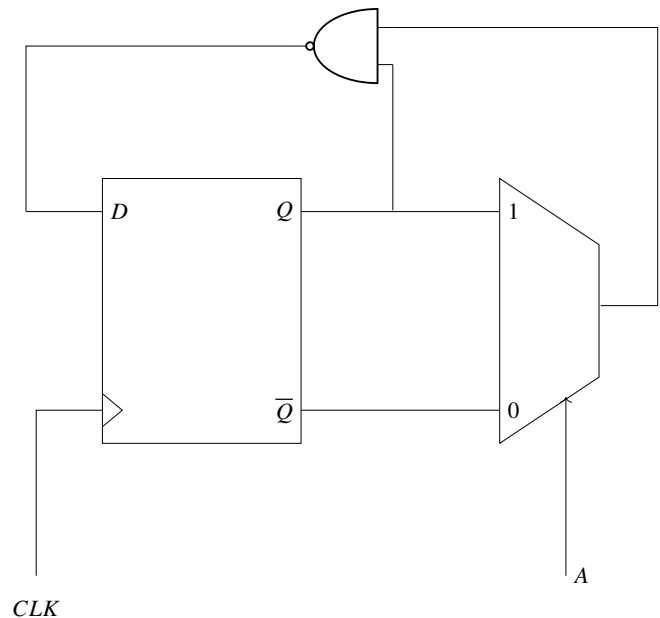

Fig. 6.6
5. The state transition diagram for the circuit shown in Fig. 6.6 is (GATE-IN2019,39)